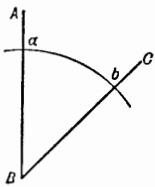

Fig. 24
13. An *Angle* is the amount of divergence between two straight lines which meet at a common point. The lines are called the sides of the angles and the point of meeting is called the *vertex* of the angle. Angles are usually designed by three letters, the middle letter being that at the vertex, as the angles A B C of Fig. 24. The magnitude of an angle is measured upon the arc of a circle of which the vertex is the center, as *a b*.